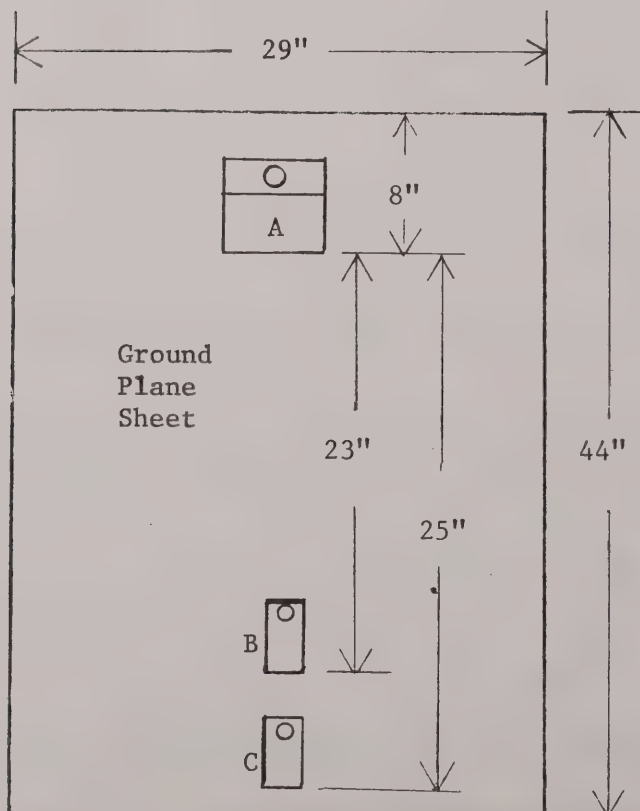

Figure 1:
- (1) Place the field strength meter on the ground plane sheet as shown in the diagram. Figure 1.
- (2) Insure that all objects within an approximate five foot radius have no effect on a meter reading. To obtain this reading place the radio to be tuned on the ground plane and move the object and note if a change is detectable on the meter. Place the test set-up clear of all objects which disturb the tune-up procedure.
- (1) Remove the antenna tip cover
- (2) With a heavy screwdriver loosen the aluminum slug. The slug position is fixed at the factory with glyptol sealant.
- (3) Preposition the slug at the top of the form.
- (4) Set the low band MT500 to be tested upright on the ground plane with the grey PTT switch on the side of the radio facing away from the field strength meter.
- (5) The exact position of the radio should be as follows: See Figure 1.